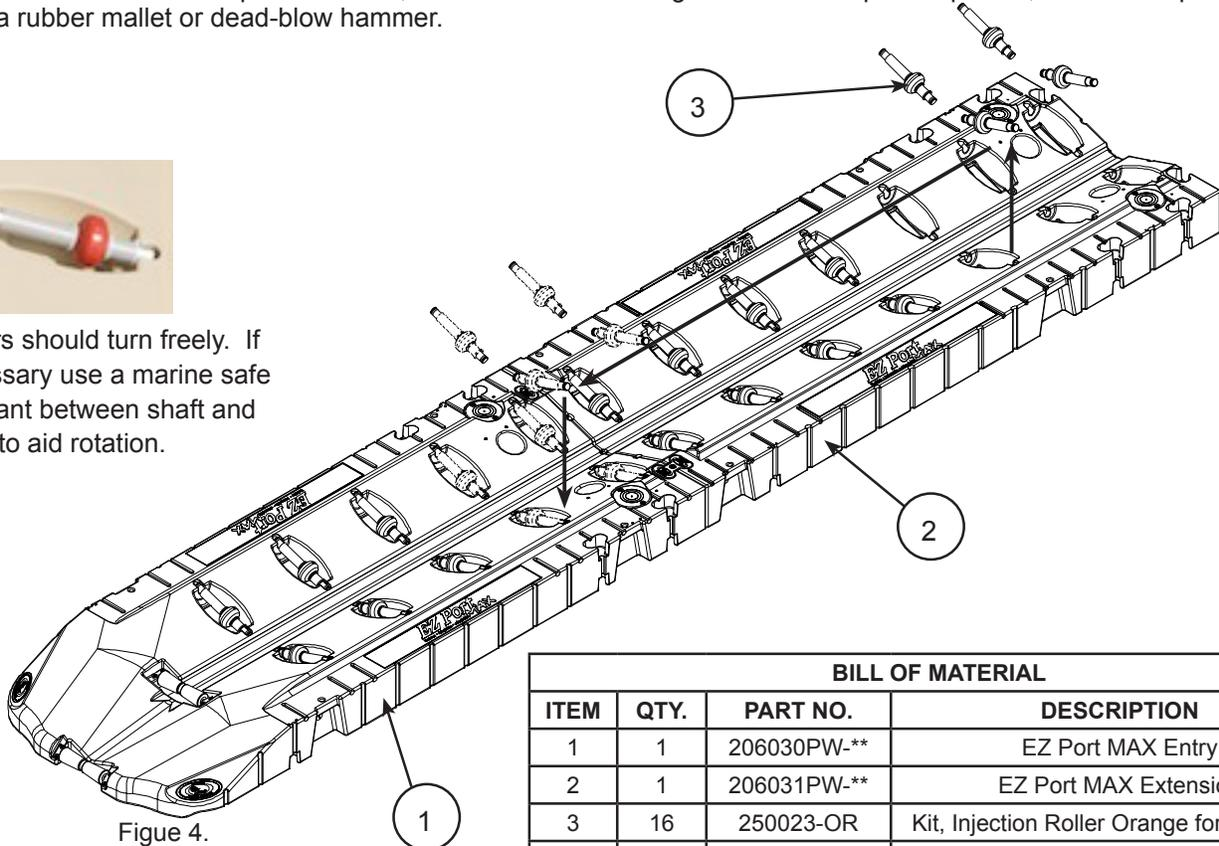

Figure 4.
**Step 2: Roller Relocation** - The EZ Port MAX Extension is shipped with twelve (12) rollers (250023-OR). Four (4) rollers at the front of the extension must be removed and reinstalled at the front of the EZ Port MAX entry section (Figure 4). The rollers are easily pried out of their locations with the help of a large screw driver or pry bar. Pry out the end of the roller shaft that is on the high side of the port. After the shaft pops out of the high side pocket, the roller shaft may be slid out of the lower shaft pocket. Move these four (4) rollers to the front of the EZ Port MAX entry section, (Figure 4). To re-install the rollers, slide the roller shaft into the lower shaft pocket. Then, with the roller shaft aligned over the top shaft pocket, drive it into place by a firm blow with a rubber mallet or dead-blow hammer.